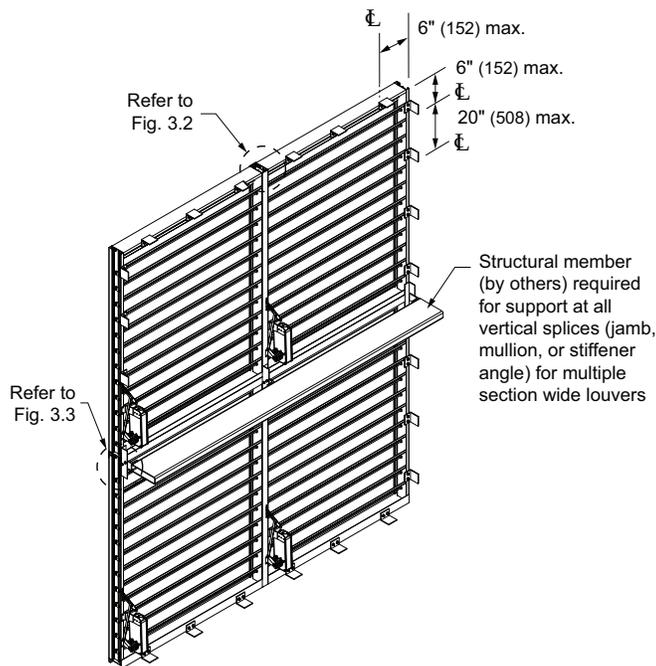

Fig. 3.1 Clip Angle - Multiple Section Louver
1. Locate all anchor clip angles [Minimum 1-1/2" x 2" x 1/8" thick x 2" long (38 x 51 x 3 x 51)] as shown in fig. 3.1. (Clip angles are by others or optional by C&S).